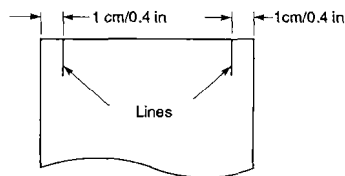

Figure 4-26
- 1) Draw lines on copy paper (A4, A3, LTR, or 11" × 17"); 1 cm/0.4 inch from each end as shown in Figure 4-26.